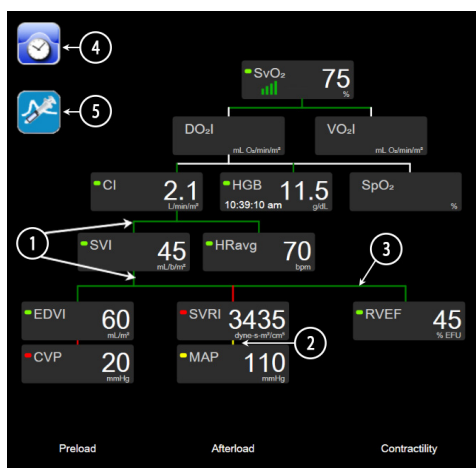

Figure 5-14 Physio relationship screen while monitoring with HemoSphere Swan-Ganz module
- 2 Vertical lines that directly connect two parameters will appear in the same color as the parameter lantern below (for example, between SVRI and MAP in figure 5-14).
- 4 The left bar appears after a bolus set is performed. Touch the clock/waveform icon to display historical data when available (see figure 5-14).
The example shown in figure 5-14 is while monitoring with a HemoSphere Swan-Ganz module. Differences in appearance and parameters will occur with other monitoring modes. For example, while monitoring within FloTrac sensor monitoring mode, HR_{avg} is replaced by PR, PPV and SVV appear (if configured), and EDV and RVEF are not shown.